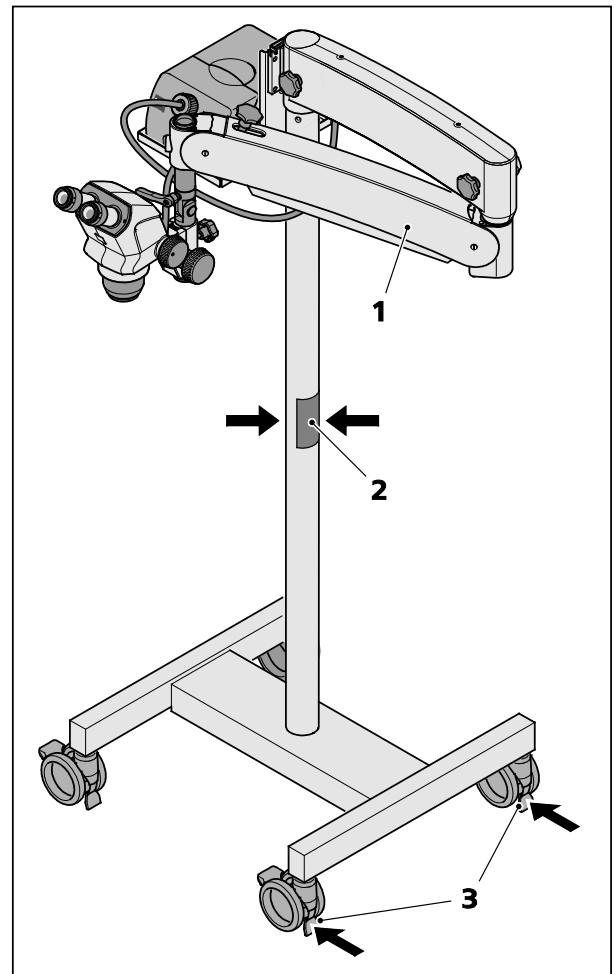

Fig. 7 Transport position of suspension arm
Parts of the stand are located at head height, with a corresponding risk of injury. Put the device in the transport position immediately after use (see Fig. 7) and observe sufficient headroom.
Bring Floor Stand S into the transport position (see Fig. 7). Grip the stand column only at the designated point to ensure safe transport.
- Swivel the suspension arm (Fig. 7/1) into the transport position.
- Release all brakes (Fig. 7/3) on the wheels.
- Grab Floor Stand S by the stand column at the designated position (Fig. 7/2) and move it carefully to the desired location. Bring it into the correct position there. Always make sure that the device is on a level surface.
- Prior to next use, press at least two of the brakes (Fig. 7/3) and check that the stand does not move inadvertently.